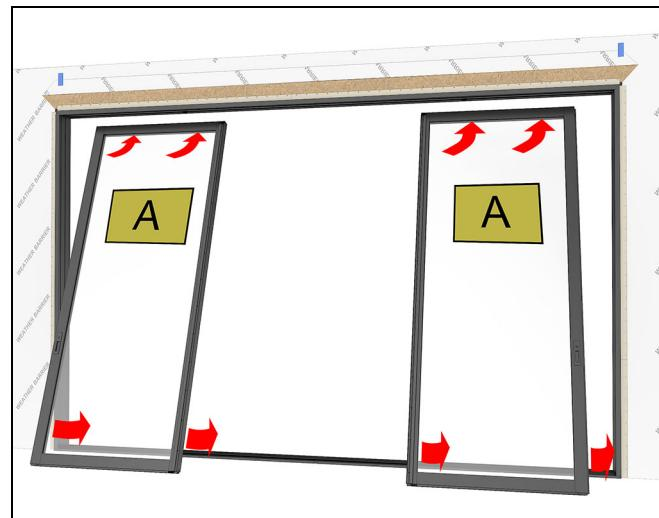

Figure 160
4. Install the (A) primary panels on the interior track. See Figure 160.